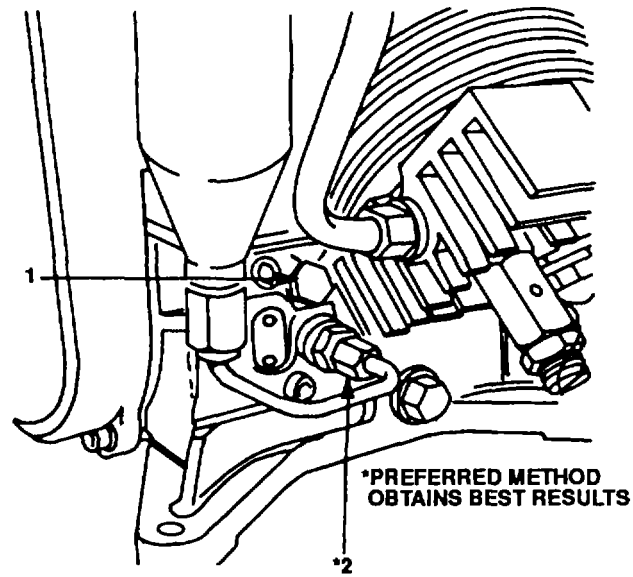

Figure 3-7. Venting the Oil Pump
- 1 Loosen vent screw (1) by one or two turns until oil emerges free of air bubbles (figure 3-7).